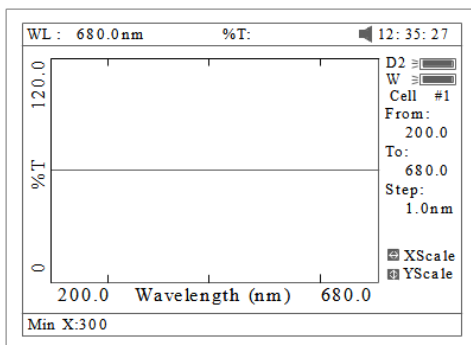

Fig 47
5. If you want to change the scale, press **【<】** or **【>】** to change "x" scale (Fig 47), input upper limit and lower limit by pressing the numeric keypad. To change "y" scale press **【^】** or **【v】**.